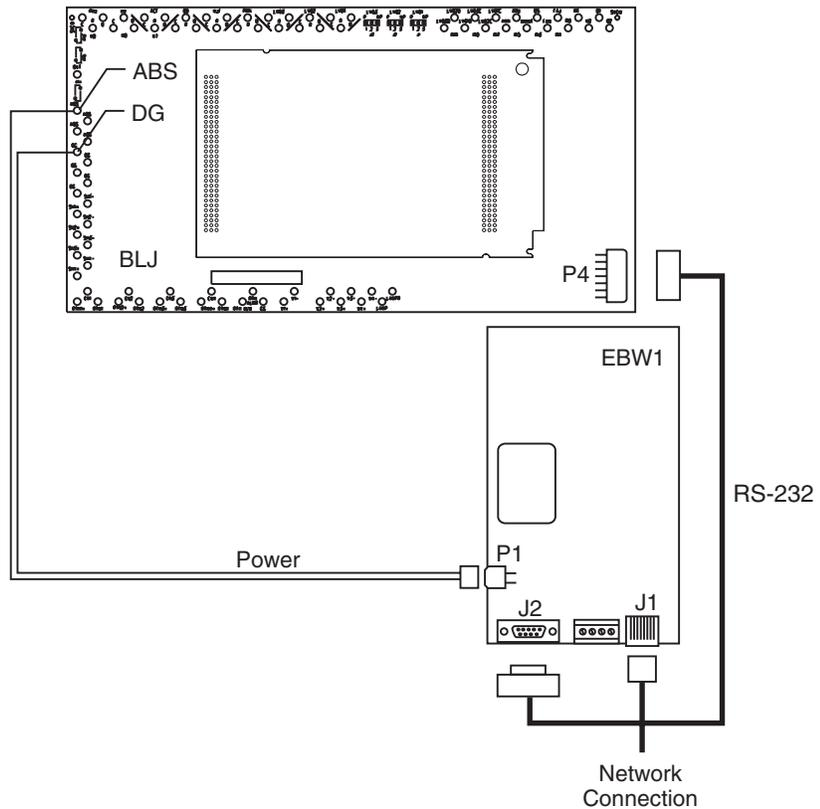

Figure A-3: Gateway Connection to BLJ3 Terminal Board.
The Galaxy Gateway receives power and communications from the controller. Use the following procedure and Figure A-3 to connect the Galaxy Gateway to the Vector controller.
The Galaxy Gateway has an IEEE 802.3 compliant 10Base-T network interface. Since the cable length required to connect the Galaxy Gateway to the network is variable, this cable must be supplied by the user. Connect the network interface cable from the IEEE 802.3 compatible network to J1 (RJ-45) connector on the Galaxy Gateway as shown in Figure A-3.
1. Connect one end of the network interface cable to J1 (RJ-45 Network Interface Connector), usually located at the bottom right on the Galaxy Gateway. (Other configurations are possible with the hardware shown in Figure A-3.)
3. Press reset (SW1 – uP reset; see Figure A-3) on the Galaxy Gateway card.